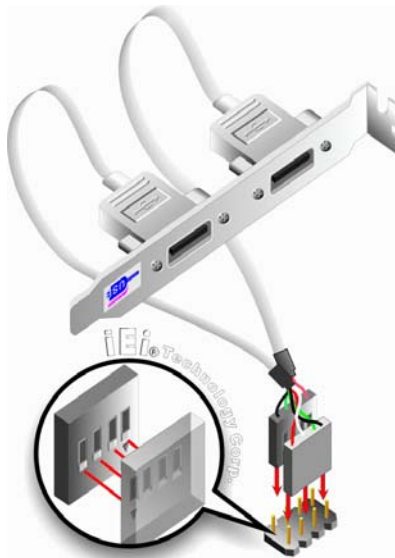

Figure 5-15: Dual USB Cable Connection
Step 3: **Insert the cable connectors.** Once the cable connectors are properly aligned with the USB connectors on the PCIE-Q350, connect the cable connectors to the onboard connectors. See **Figure 5-15**.